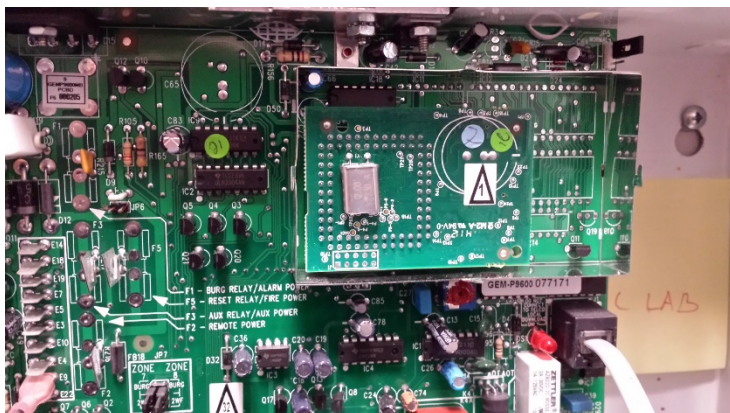

Figure 5.
2. If the Napco Panel contains a new Sill-lab board with flash programmable firmware, download firmware image (X255SF_72B.HEX) using the Napco Quickloader software. The Napco panel with the new Sill-lab board will not contain the removable firmware chip in the previous step (Refer to Figure 5).